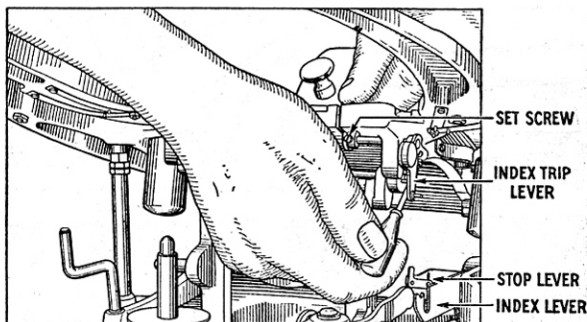

Fig. 15—Adjusting Index Trip Lever
- a. Improper adjustment of index trip lever, Fig. 15. See b, subject 16, above for proper adjustment.
- b. Tighten the set screw on the index lever trip cam, shown in Fig. 15, so that it is against the flat of the index trip lever shaft. Loosen the lock nut in the index trip lever as shown in Fig. 15, and adjust the screw until the inside pin lowers on the stop lever and the outside pin lowers in the larger slot of the index lever when the lift ring comes down without a record.